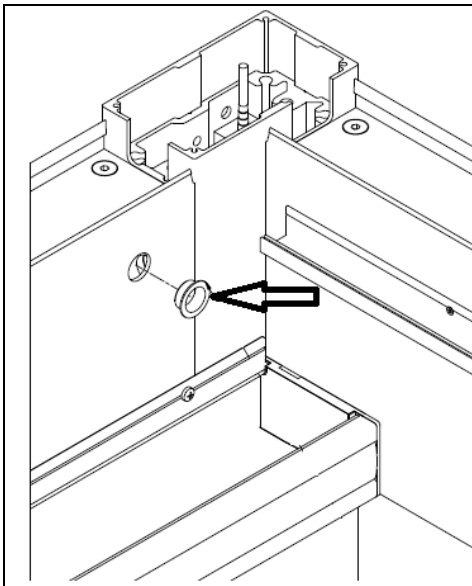

Figure 18
7. In the extreme holes at both ends of the lengthwise beams, hammer plastic sliding rings on the side wall (fig. 18).